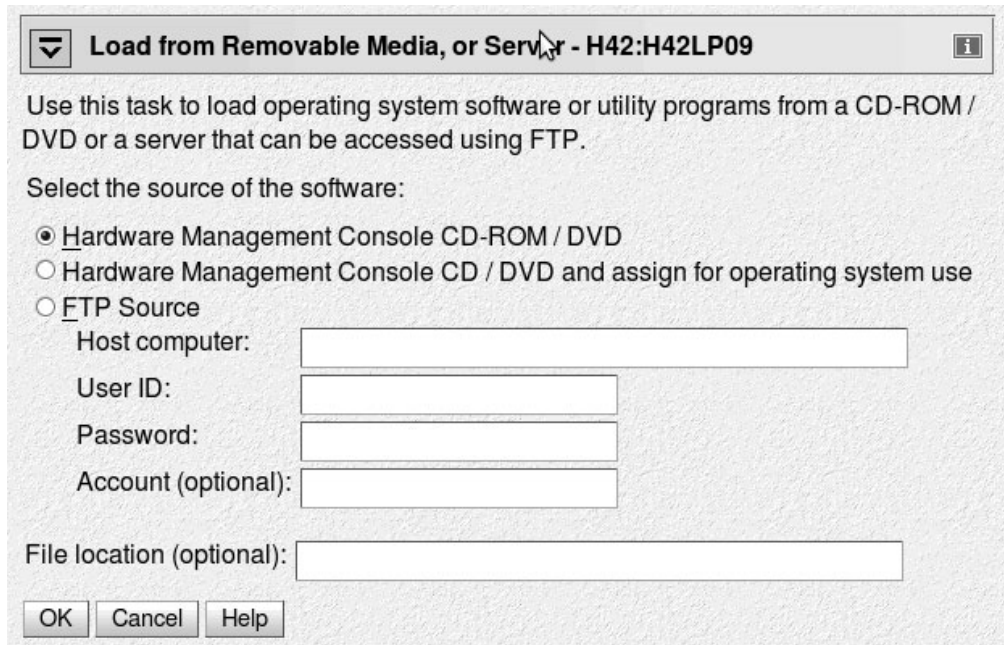

Figure 28. Load from Removable Media or Server panel
- Select **Hardware Management Console CD-ROM/DVD** (see Figure 28 on page 104).